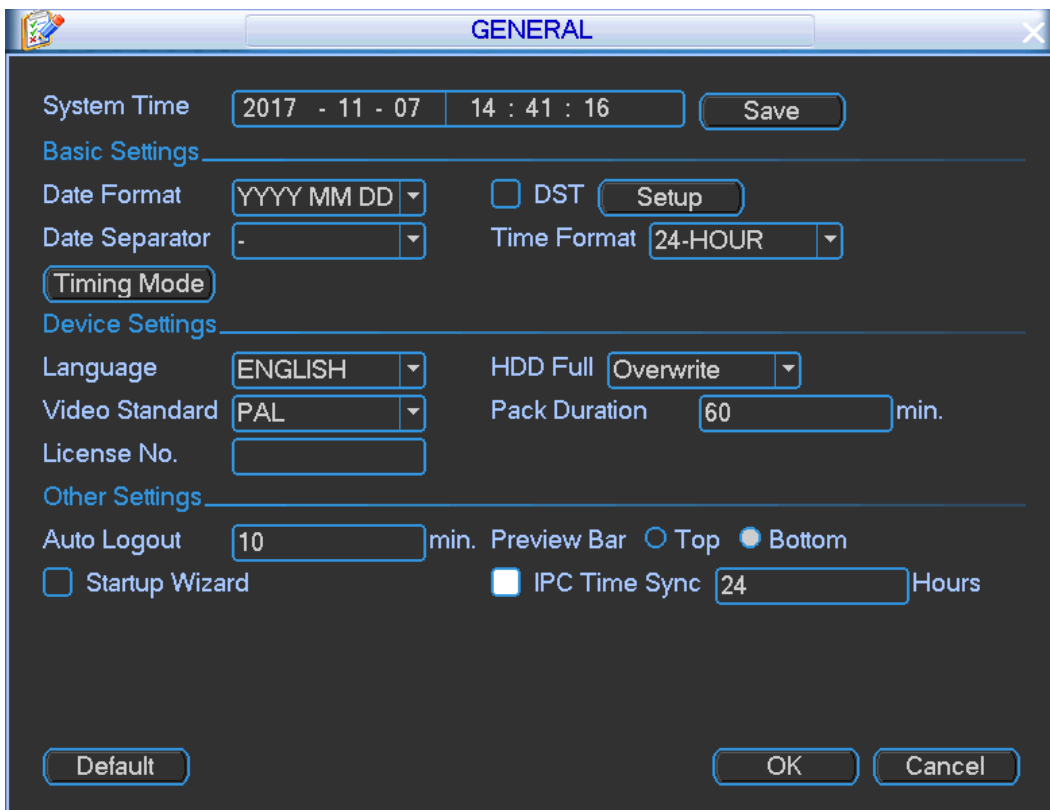

Figure 4-8
Step 1 On the main menu, from Setting->General, Enter General interface. See Figure 4-8.